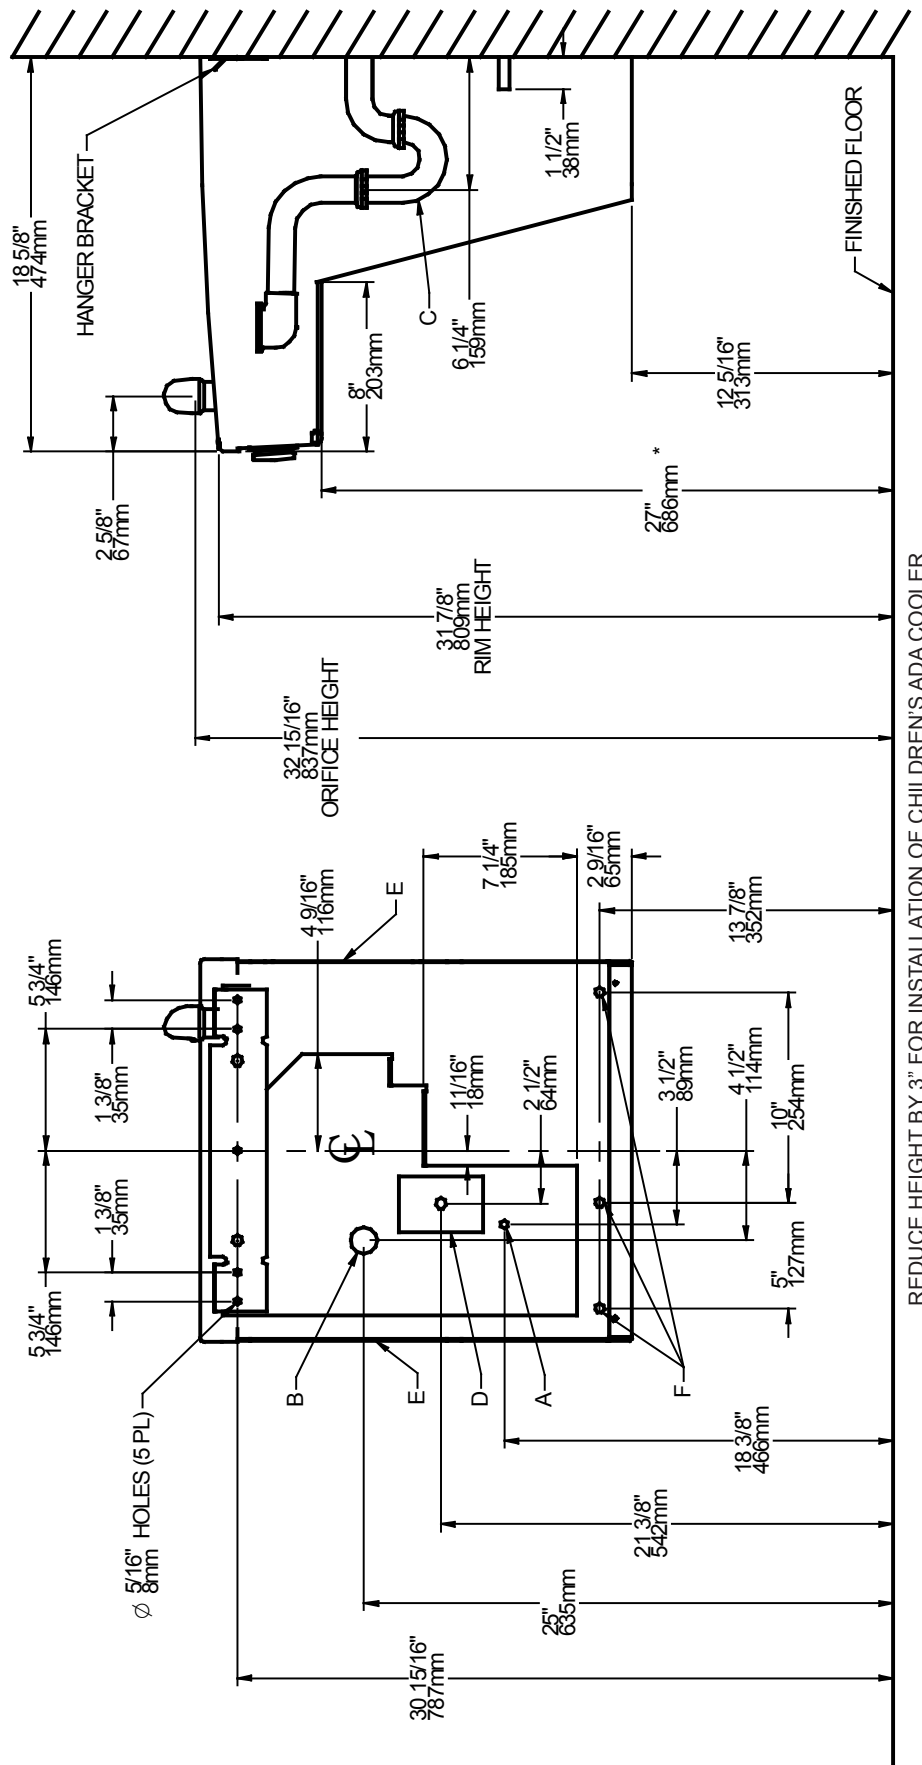

Fig. 2
- 1) Remove hanger bracket fastened to back of cooler by removing one (1) screw.
- 2) Mount the hanger bracket and trap as shown in Figure 2.
- 4) Hang the cooler on the hanger bracket. Be certain the hanger bracket is engaged properly in the slots on the cooler back as shown in Figure 2.
- 5) Loosen the two (2) screws holding the lower front panel at the bottom of cooler base and two (2) screws at the top (**Use torx bits sold separately**). Remove the front panel and set aside.